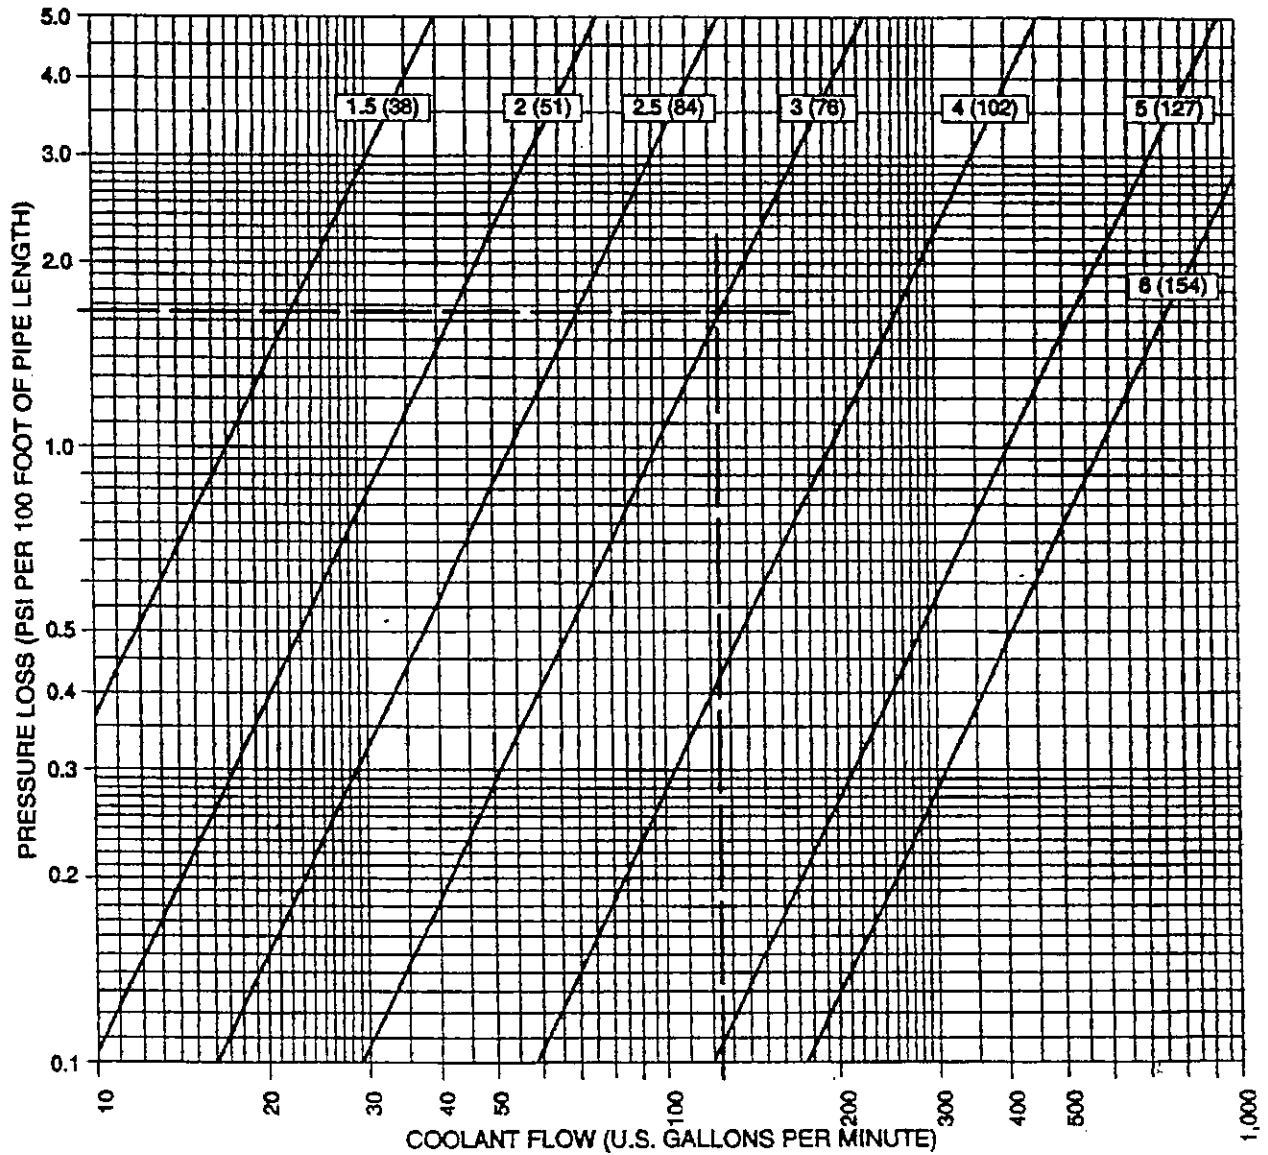

FIGURE 30. FRICTIONAL PRESSURE LOSSES FOR INCH (mm) DIAMETER PIPES
3. Find the back pressure at the given flow per unit length of pipe for the nominal pipe diameter used in the system. In this example, 3 inch nominal pipe is used. Following the dashed lines in Figure 30, 3 inch pipe causes a pressure loss of approximately **1.65 psi per 100 foot of pipe.**